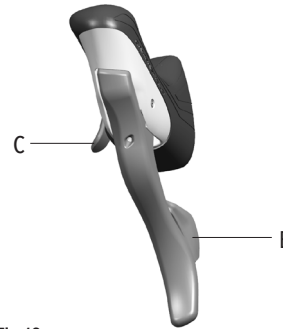

Fig.13
- Lever B (Fig. 13) on the left-hand control set operates the front derailleur, lifting the chain onto the next highest chainring.
- Lever C (Fig. 13) operates the front derailleur, dropping the chain onto the next lowest chainring.